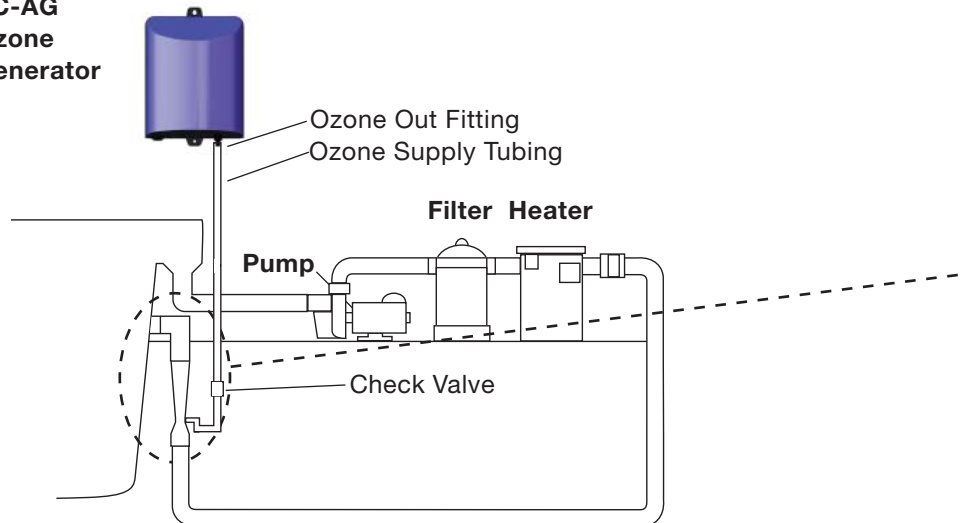

Figure 2 Installation Schematic for Injector Assembly
3. Screw 1-1/2" nipple loosely into 1-1/2" elbow, then screw this assembly into the pool's 1-1/2" eye ball fitting stopping when tight and elbow is pointed down (Figure 2).